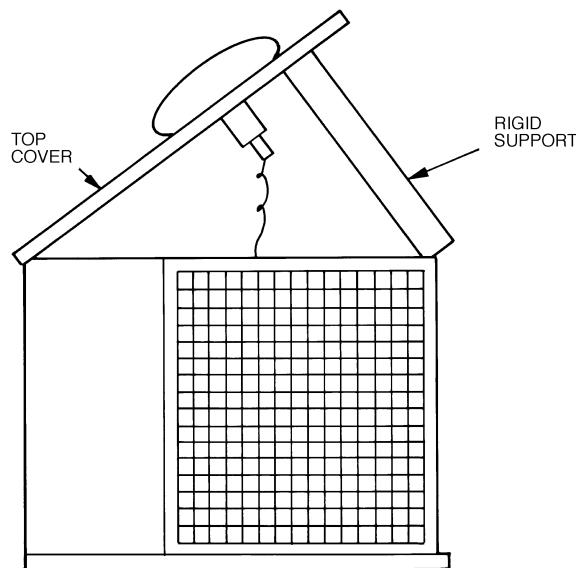

Fig. 23 — Pivot and Support Top Cover
2. Remove screws holding rear corner posts and top cover in place. Pivot top cover up 12 to 18 in. (305 to 457 mm) and support with a rigid support. See Fig. 23.